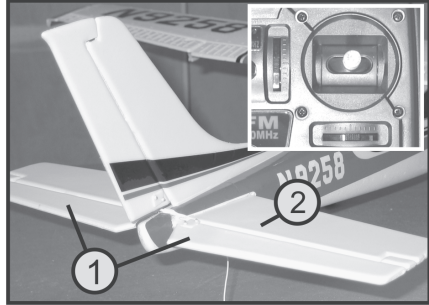

Figure 16a
- The trim lever for the elevator (see also figure 2, pos. 3) has to be in centre position. If the linkage rod is adjusted correctly, the elevator (1) and the tail plane (2) are in line (see figure 16a).